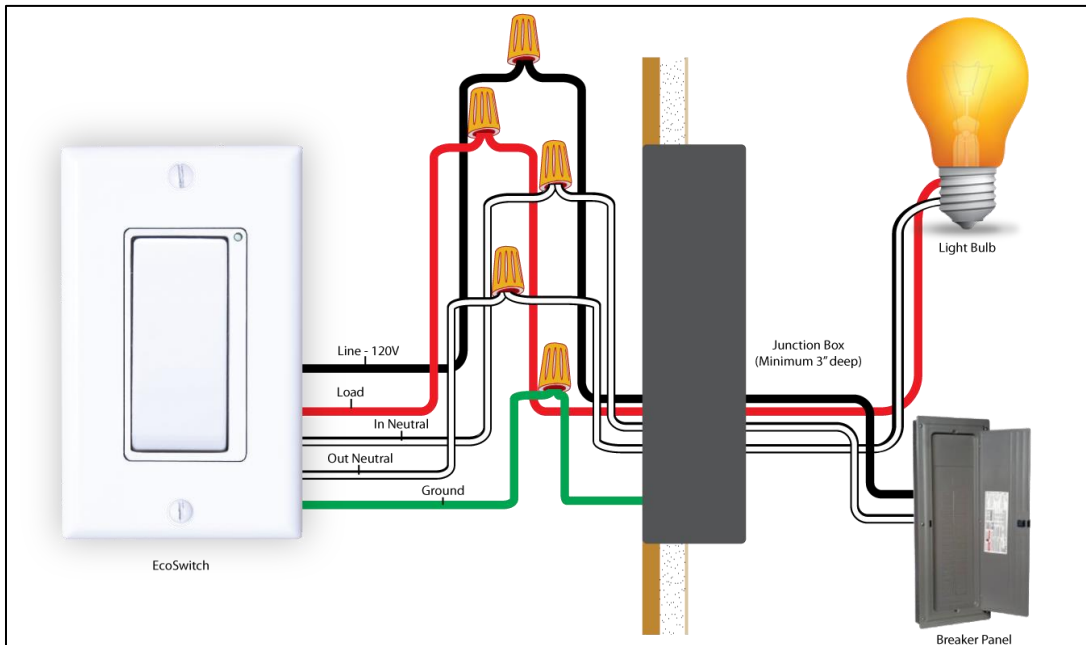
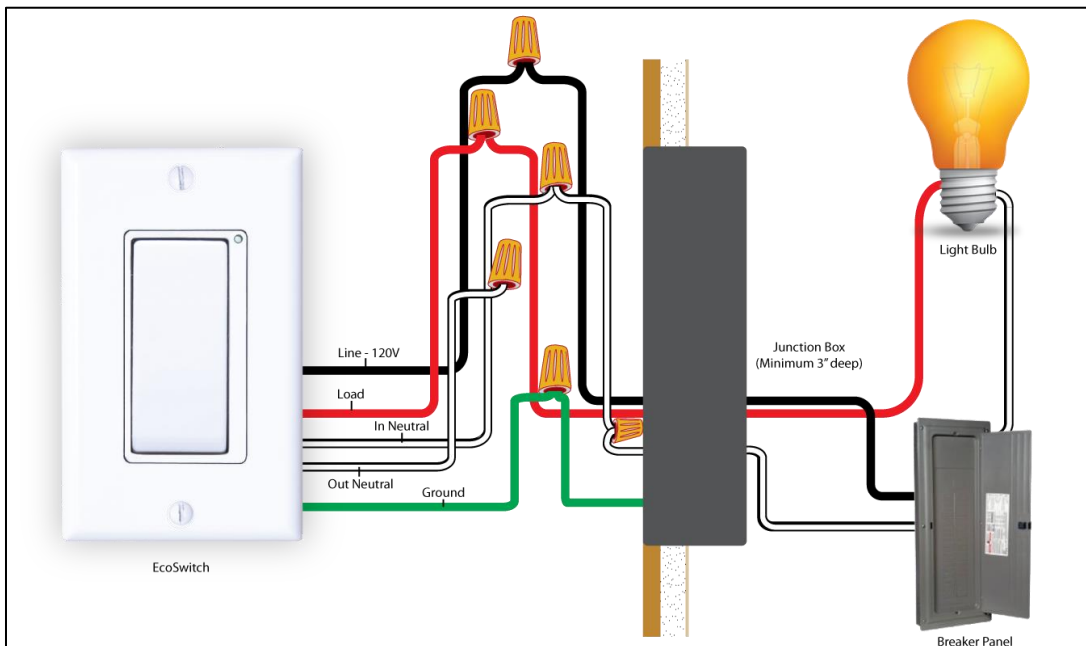

Figure 1: EcoSwitch Wiring Diagram with two Neutral Wires
Figure 2: EcoSwitch Wiring Diagram with only one Neutral Wire
14. Verify all wire connections. The wires should now look like Figure 1. If only one Neutral connection was available, the wires will look like Figure 2.